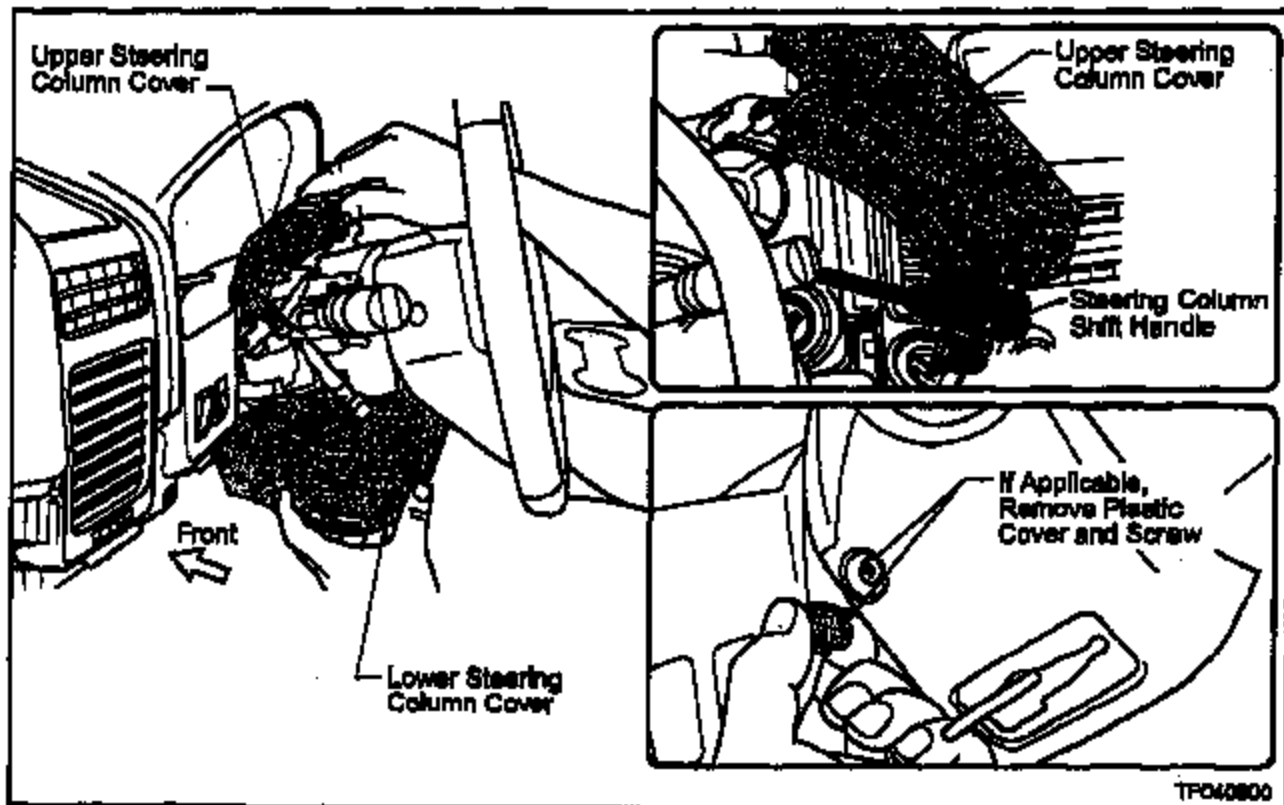

Figure 5
- If applicable, remove the Plastic Cover and Screw from the LH side of the Cover (see Figure 5)
- Slide the Cover off the end of the Shift Handle (see Figure 5)